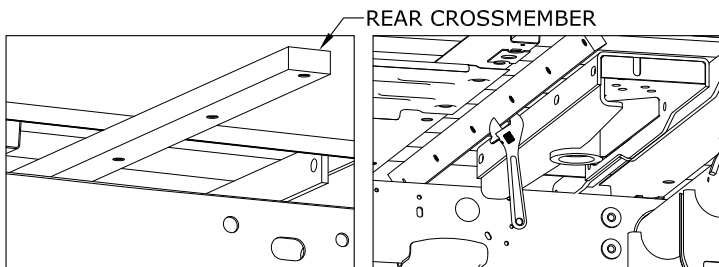

FIGURE B6: Rear Cross Member FIGURE B7: Rear Cross Member
4. **Place the rear cross member (1" X 2" bar).** Slide the cross member between the bed and the frame just rearward of the center section until it spans both frame rails, see figure B6. The holes in the crossmember are closer to one edge than the other. Rotate the cross member $\frac{1}{4}$ turn so that the holes are closest to the bottom of the cross member. The narrow space between the bed and the frame will make it difficult to rotate the cross member. Rotation of the cross member can be made easier by using an adjustable wrench for leverage, see figure B7.